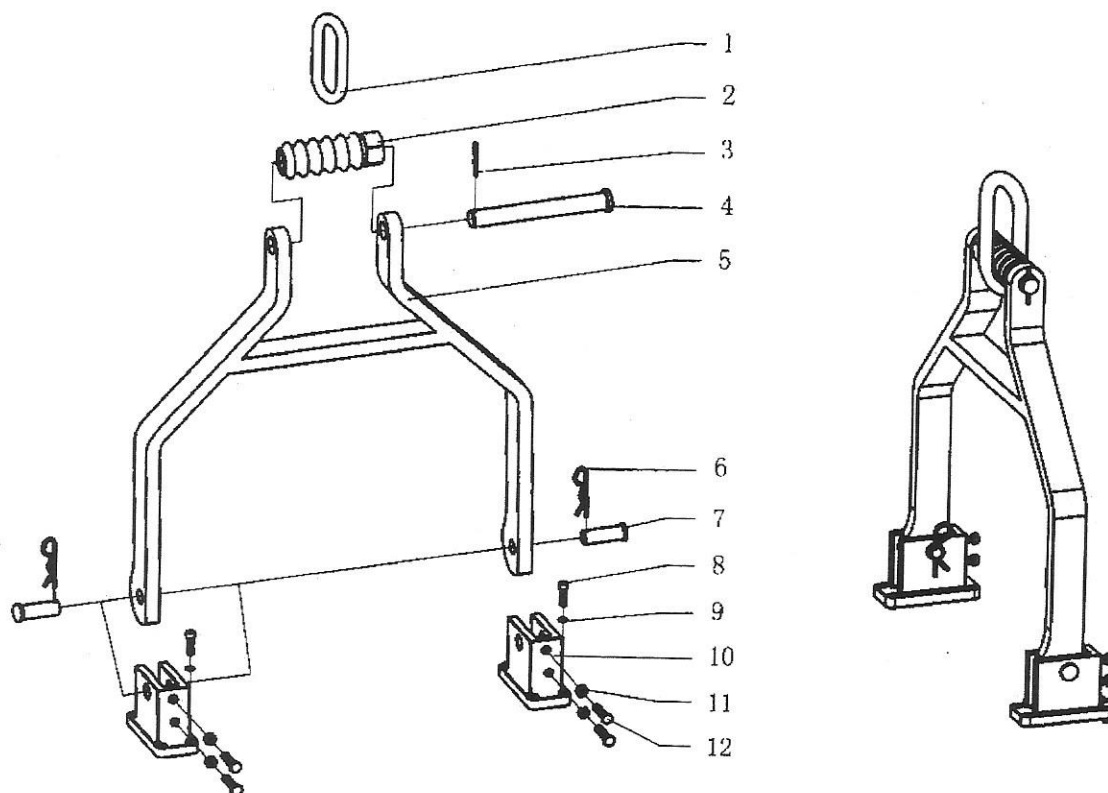

Fig. 20
17. Assembly of suspension rod (Fig20, Table 17)